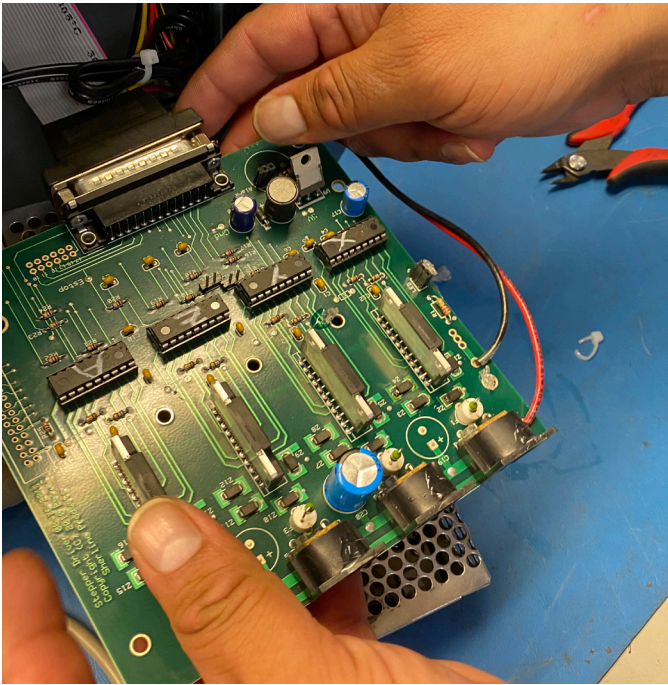

FIGURE 11
8. Pull the board off (see Figure 11).